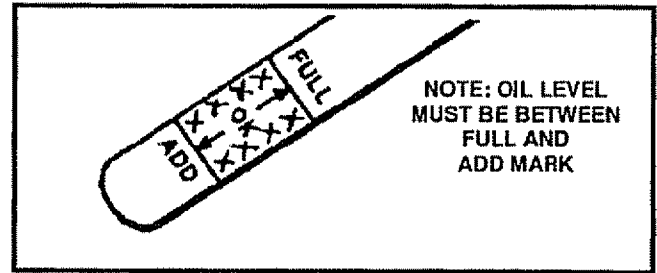

FIG. 18
Check the crankcase oil level (See Fig. 18) before starting the engine and after each five (5) hours of continuous use. Add S.A.E. 10W-30 motor oil or equivalent. Tighten fill cap/dipstick securely each time you check the oil level. S.A.E. 5W-30 motor oil may be used to make starting easier in areas where temperature is consistently 20° F. or lower.